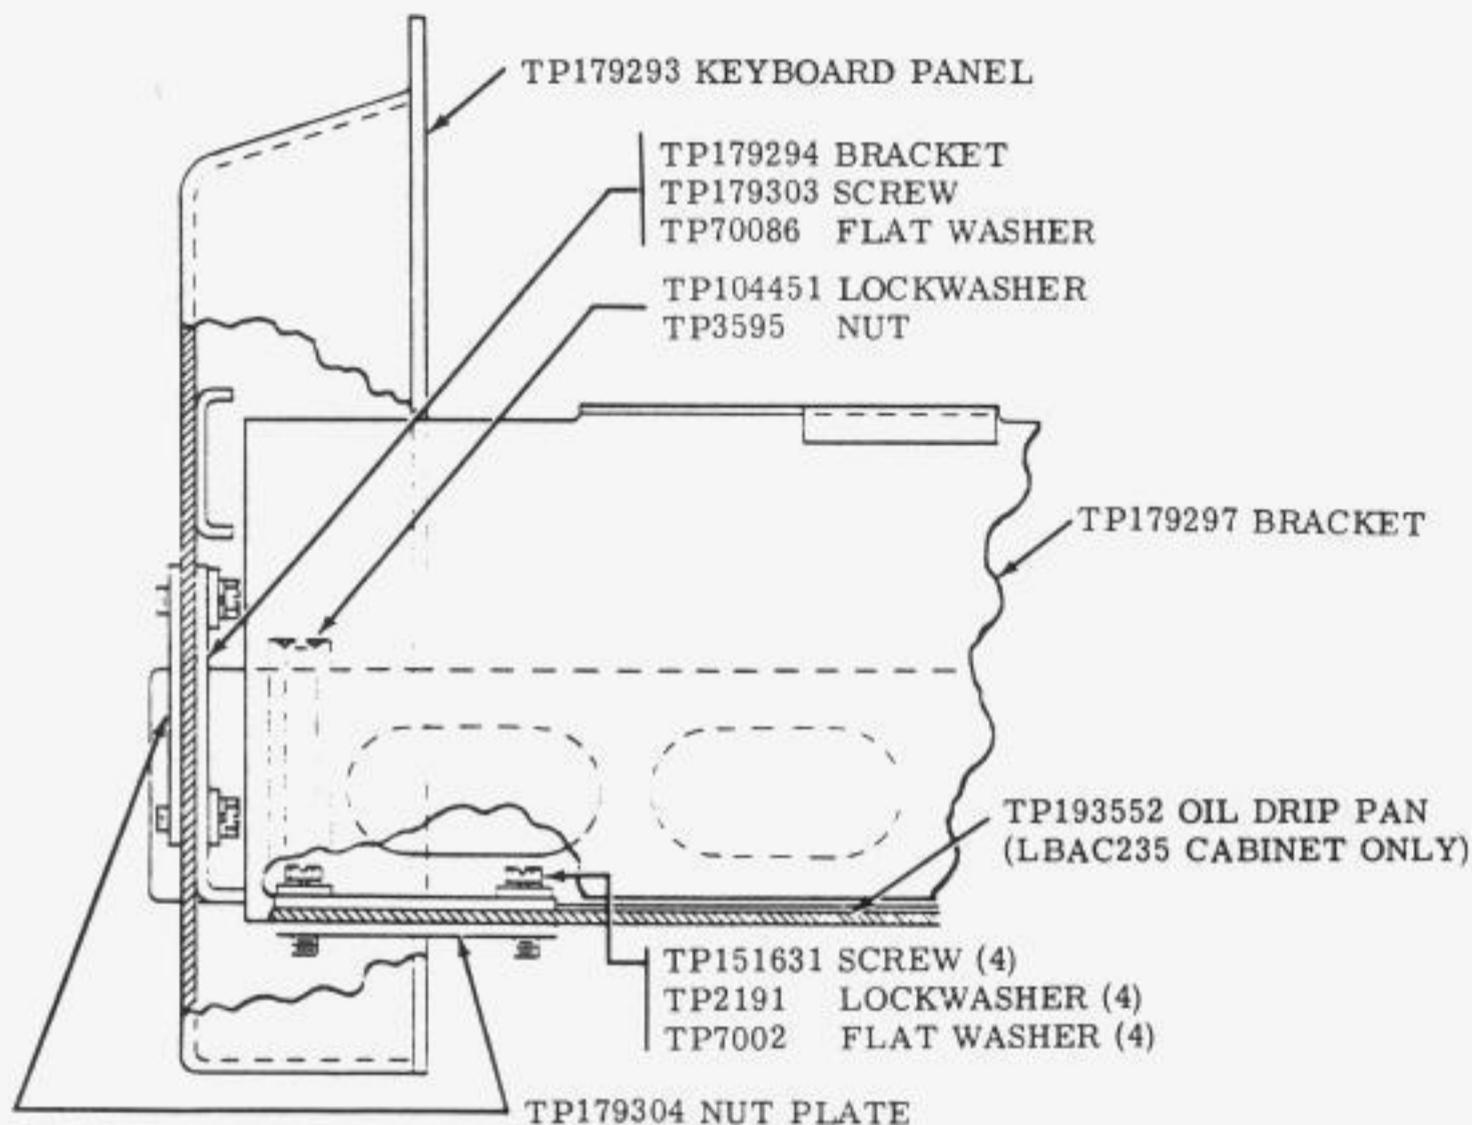

Figure 21 - Keyboard Panel Installation
2.82 Install the TP179294 bracket on the TP179293 keyboard panel with four TP151631 screws, four TP7002 flat washers, four TP2191 lockwashers, and two TP179304 nut plates. Leave the screws friction tight. See Figure 21.